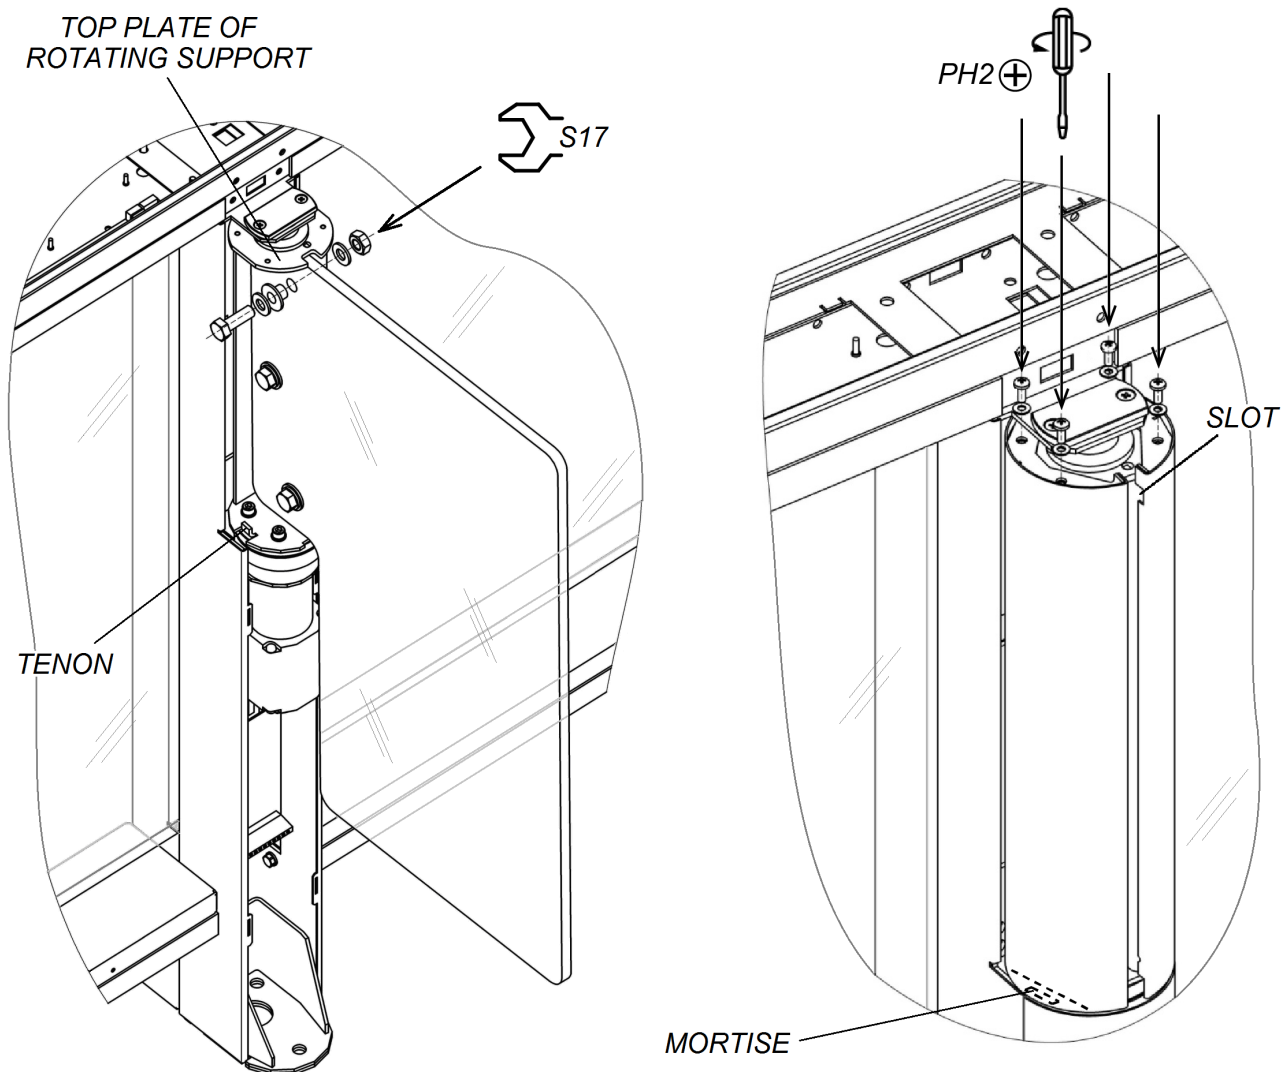
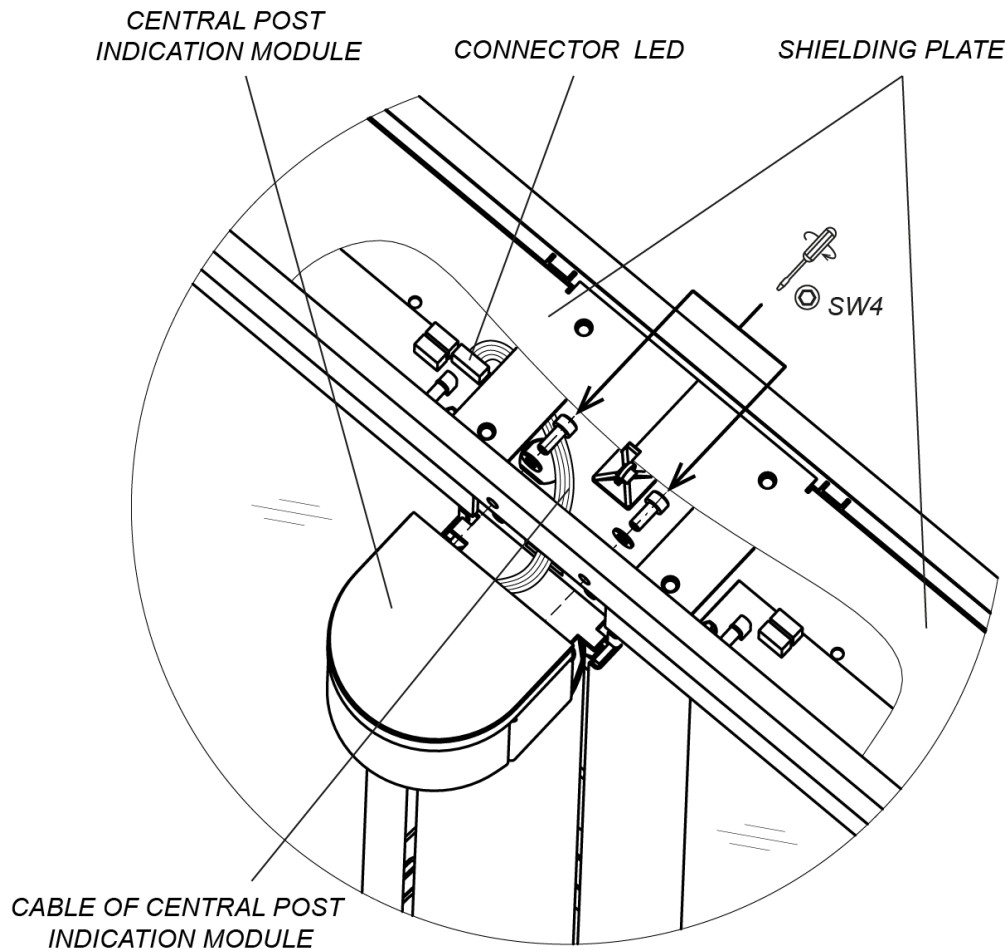

Figure 22. Swing panel and its cover plate
Figure 23. Central post indication block installation
25. Mount central post indication blocks (3) (see Fig. 22, Sect. 8.9.5) (included in the installation kit).
26. Install section top covers (10) (see Fig. 23, 24 Sect. 8.9.6).
32. Mount central post cover plate (5) (Sect. 8.9.1).
In order to install the central post indication block (3), proceed as follows (Fig. 22):
3. Install the indication block on the surface, located above the rotating support of swing panel and using an SW4 Allen wrench fix it on the post top duct (12), using two M5×12 screws with washers from the delivery set.
Remove the central post indication block in a reverse order. Disassemble the section top cover (10) and two shielding plates prior to removal (Sect. 8.9.6, Fig. 22, Fig. 23).
Installation order of the **STC-01G (SDC-01G)** and **STC-01S (SDC-01S)** section top covers (see Fig. 23):